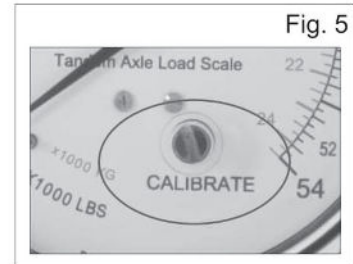

Fig. 5
**Step 8:** Using a small flathead screwdriver, turn the calibration screw on the dial face until the gauge matches the certified scale weight. (Fig. 5)